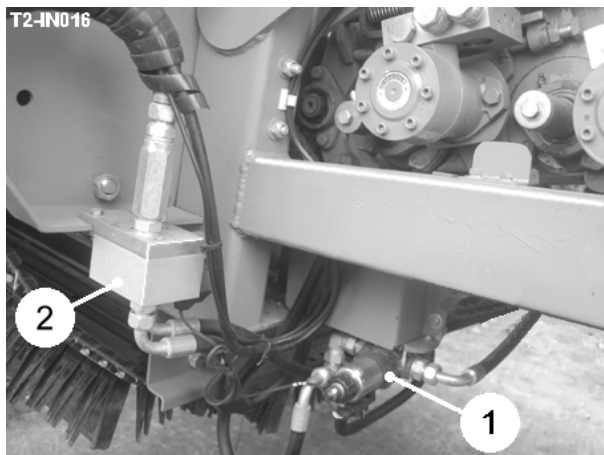

Fig 18
For the spreader to run, the auxiliary valve bank discharge section must first be turned on using the button  on the service terminal screen. The button  will then start/stop the spreader independently of the elevator web. The speed of the spreader web is controlled by the flow divider (item 1, fig 18) from the service terminal.
The service terminal button  starts/stops all the elements of the rear section of the harvester. With the service terminal button  on, the joystick button  starts/stops only the elevator web by operating the bypass valve (item 2, fig 18).